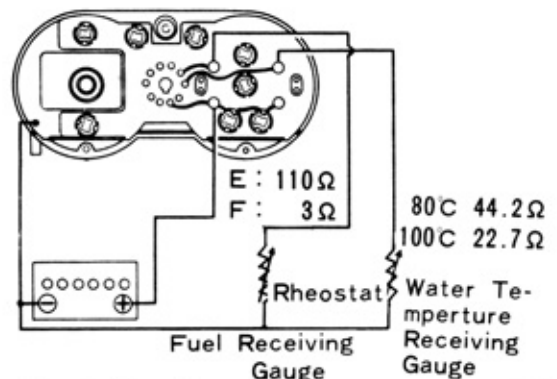

Fig.2-18 Meter Test X4896
1. Set a proper rheostat in the circuit as illustrated in the figure 2-18.